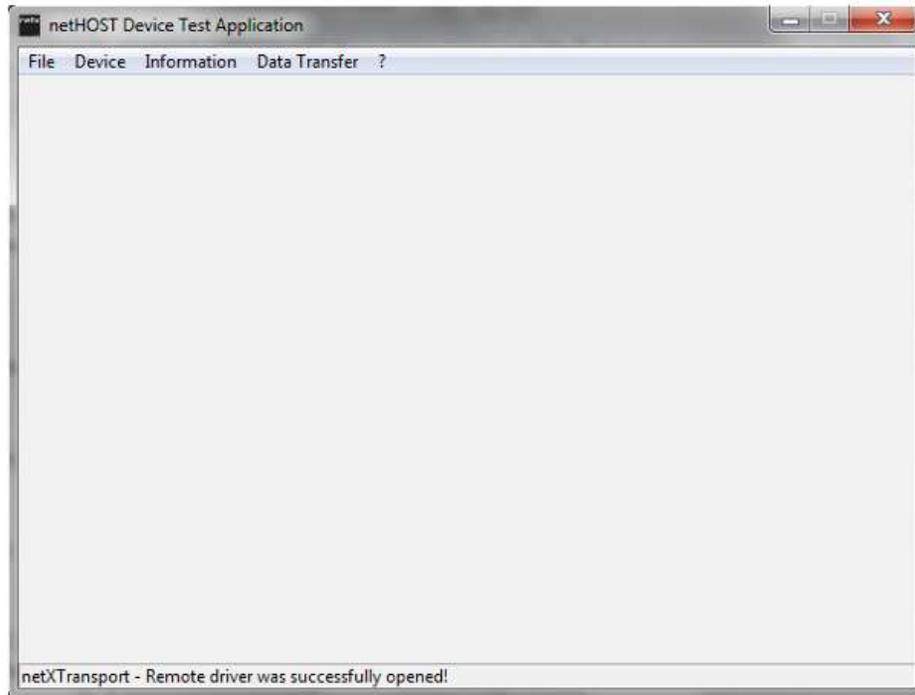

Figure 39: netHOST start [netHOST\_start]
14. Open the software loading program "netHOST v1.0.0.0" on the laptop. The "netHOST Device Test Application" start screen appears. (Figure 39, STMA-69237);